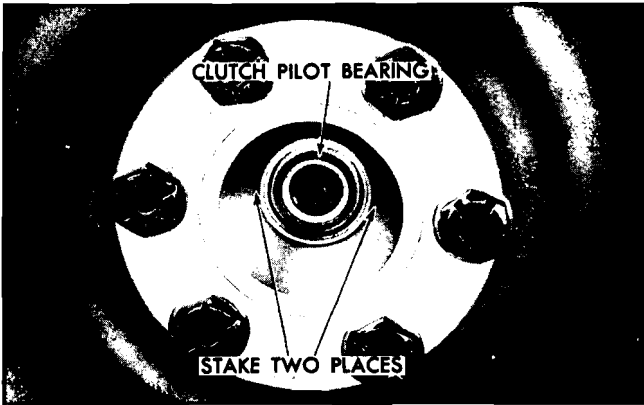

Fig. 7-6 Clutch Pilot Bearing Staked
chisel to remove staking in end of crankshaft which keeps bearing in place when transmission is removed (Fig. 7-6). Remove clutch pilot bearing from hole in crankshaft.
4. If bearing is a snug fit in crankshaft, use Puller J 4383 and Slide Hammer J 2619-A to remove bearing. When installing new bearing, see that hole in crankshaft is thoroughly clean. Install new bearing with shielded side toward transmission. Start bearing into hole and tap into place. Stake slightly, as shown in Fig. 7-6, to keep bearing in place in case transmission is removed in the future.